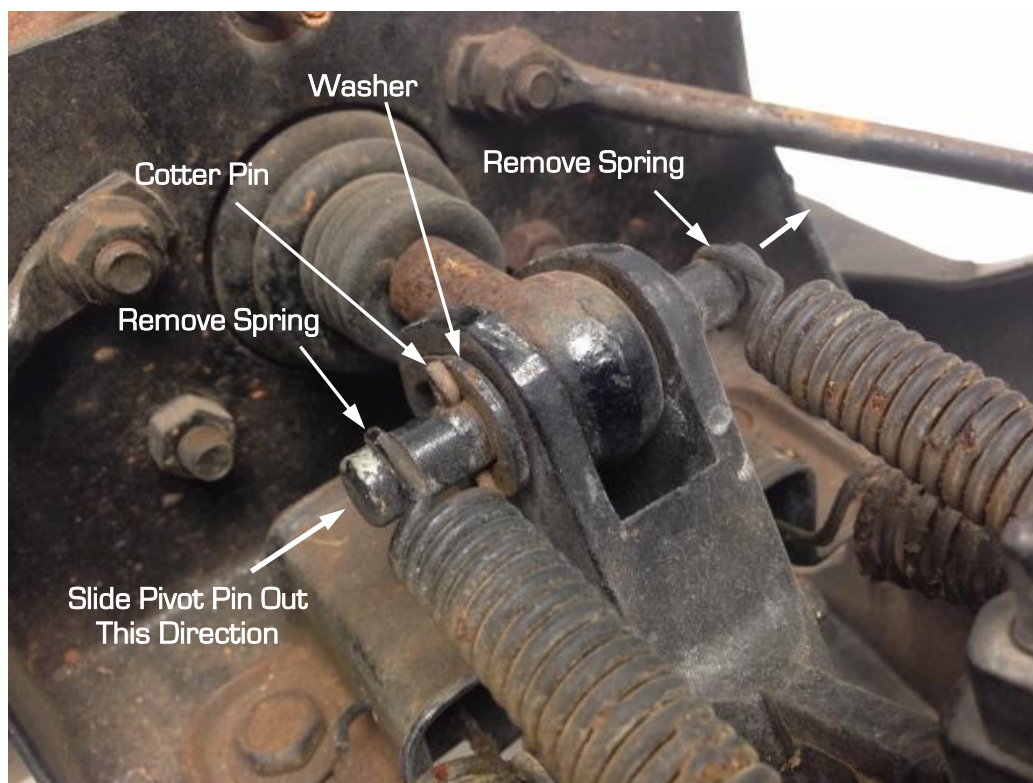

Figure 1 – Remove Actuator Springs, Cotter Pin and Linkage Pin
2. With the headlight doors in the closed position, use the following pictures and steps 3 through 6 to remove the vacuum actuators on both sides of the vehicle (Figure 1).